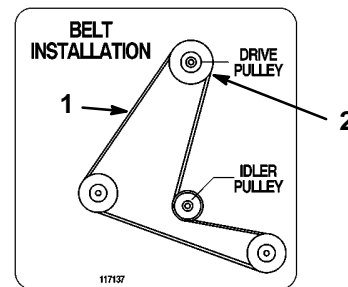

Figure 8
9. Pull on idler pulley to relax belt tension and install mower drive belt to the engine pulley (Fig. 8). Place belt in upper pulley groove if engine has a double groove pulley.